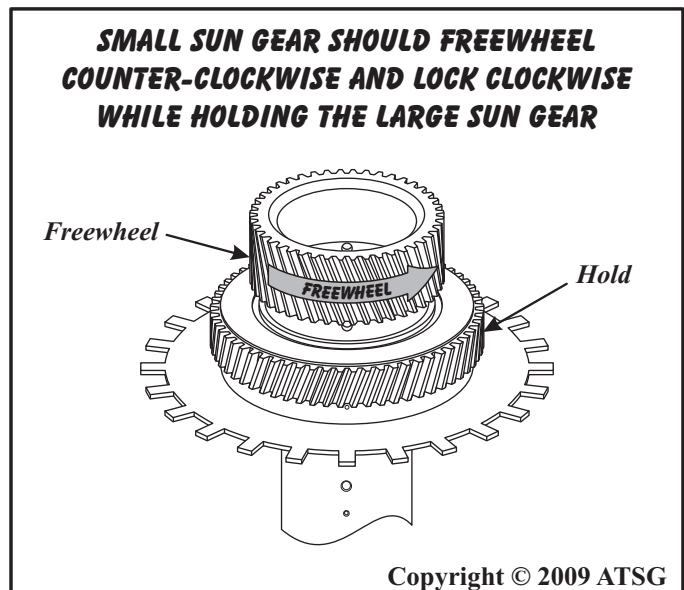

Figure 120
12. Verify proper 1st sprag operation, as shown in Figure 120, before proceeding.